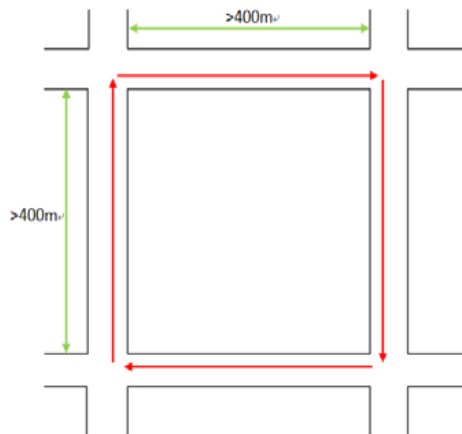

Figure 5-9: Driving Around a Rectangular Block
2. Drive the car and keep the speed higher than 30km/hr along a rectangle contour with a side length over 400m. Go one lap around this rectangle block clockwise as shown in Figure 5-9: